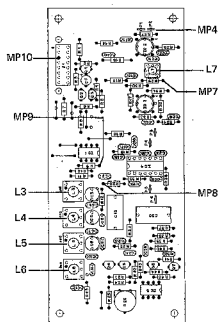

Fig. 4.5
- Connect RF voltmeter to test point MP7 (R29, IC3 pin 1, 1.726.750, Fig. 4.5) and adjust L7 for maximum voltage (approx. 400 mV).
- Connect AF voltmeter to test point MP9 (J1 pin 2, 1.726.750, Fig. 4.5)
- Switch tuner off and carefully pull IC4 out of its base. Connect generator and frequency counter to test point MP8 (R20, Fig. 4.5).